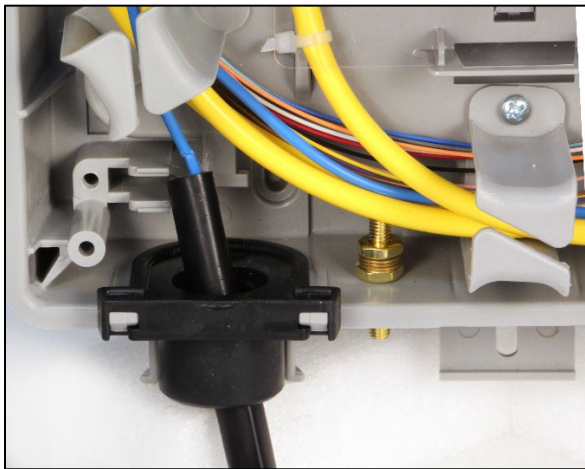

Figure 4
4. Ground armored or tone able cable using supplied ground stud (Figure 4)